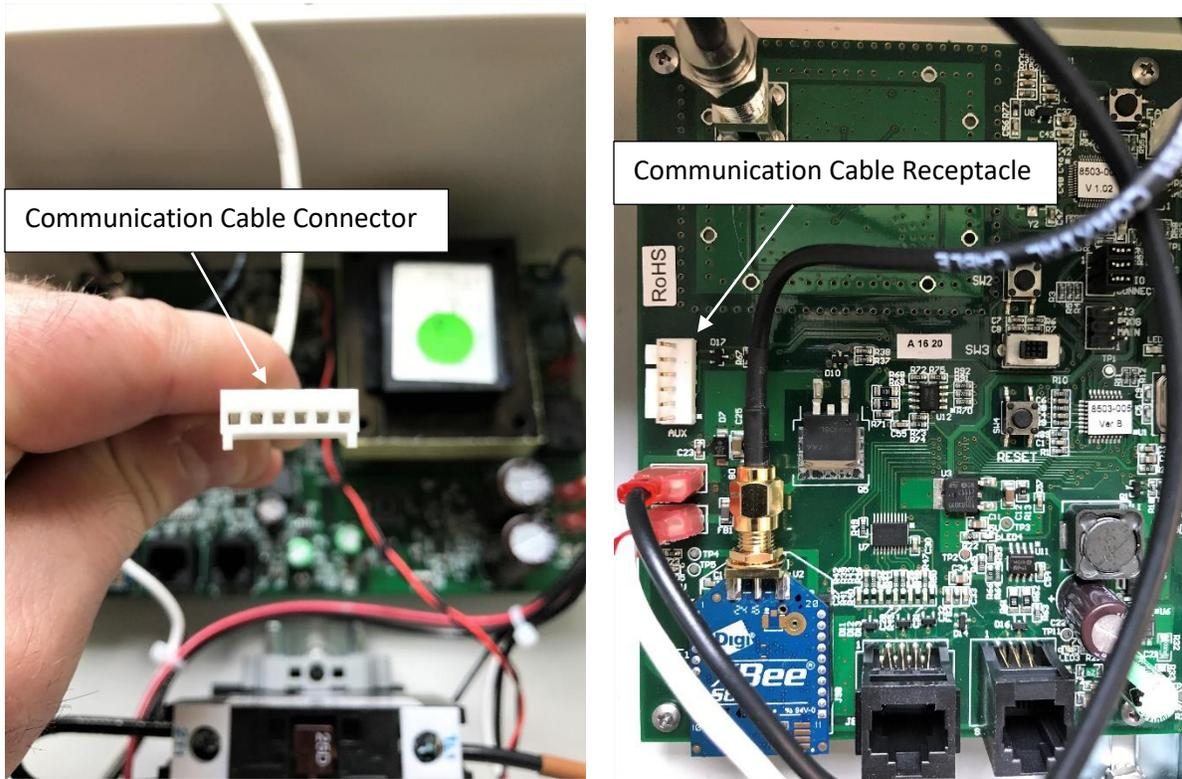

Fig 15
- Align the holes of the communication cable connector with the pins of the communication cable receptacle on the circuit board (Fig. 15).